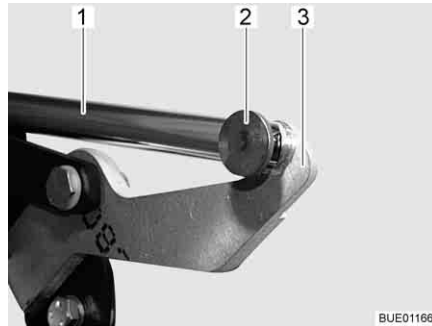

Fig. 129 Drive
- Remove the connection (e.g. splint and pin) (Fig. 129,2) between the push rod (Fig. 129,1) and lever (Fig. 129,3).